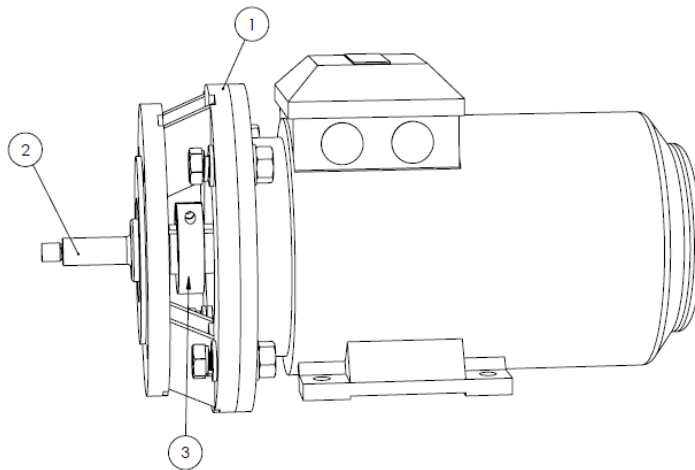

Figure 1: Motor Adapter Installation
- 1) Begin with the bare motor. Ensure that the shaft and C-face areas are clean. Attach the motor adapter (1) to the motor using the supplied hardware.
- 2) Attach the stub shaft (2) and shaft locking collar (3) to the motor and the motor adapter (1) as shown in Figure 1. Leave the shaft collar loose until Step 5.